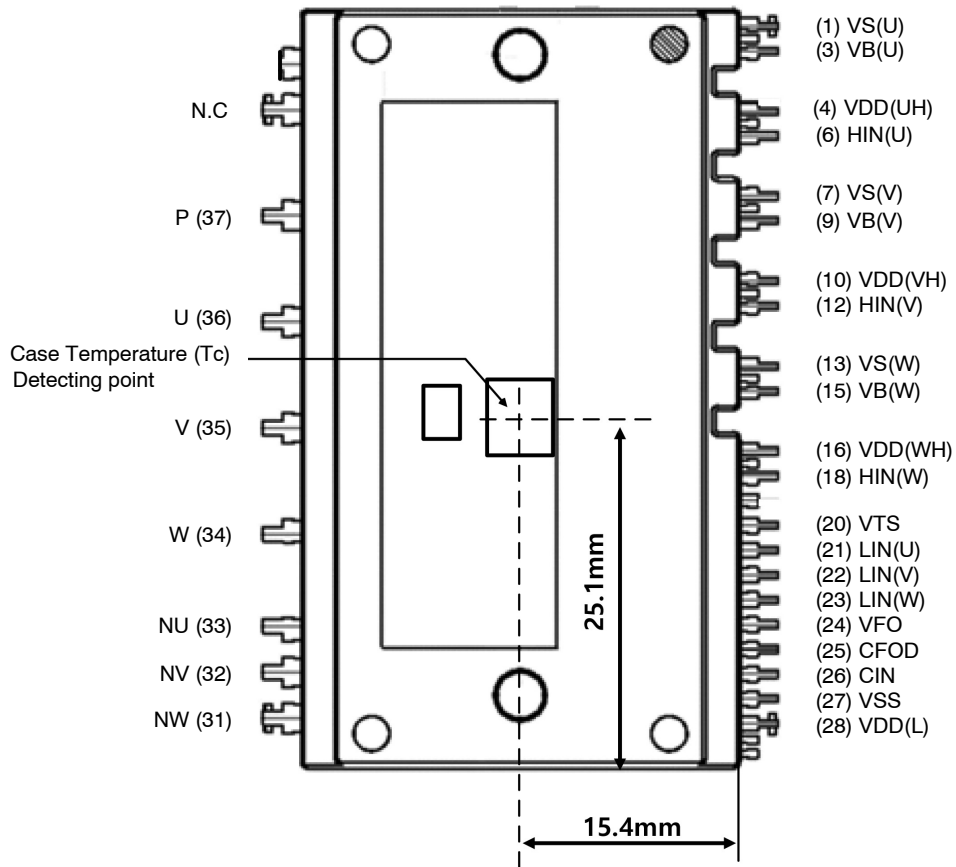

Figure 1. Pin Configuration – Top View
3. For the measurement point of case temperature (T_c), please refer to Figure 1.